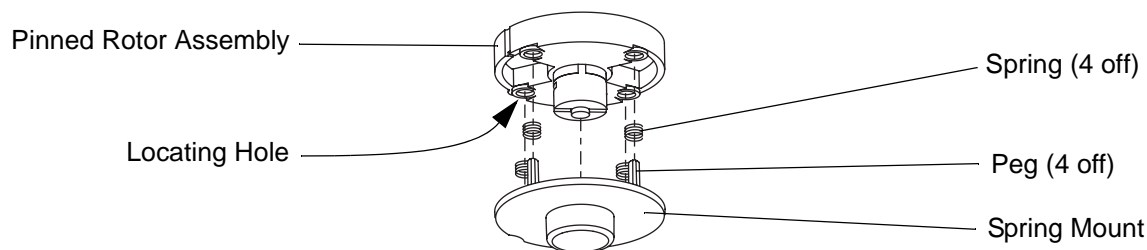

Figure 45 - Assembling Springs to Rotor and Spring Mount
19.15 Carefully lift the pinned rotor assembly off the spring mount (refer to Figure 45).
19.17 Make sure the spring mount is on a flat surface, with the four pegs and springs on top (refer to Figure 45).
19.18 Turn the new pinned rotor assembly (Table 15, Item 10) so that the four locating holes are on the underside (refer to Figure 45).